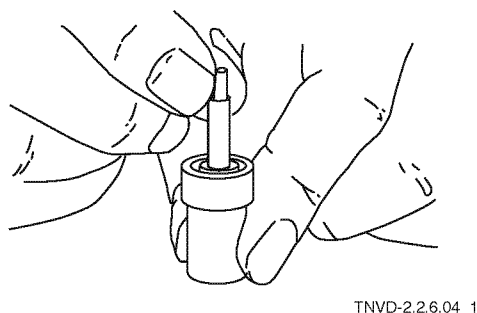

Figure 4-39
2. Hold the nozzle body vertically and insert the nozzle into the body about 1/3 of its length (Figure 4-39).